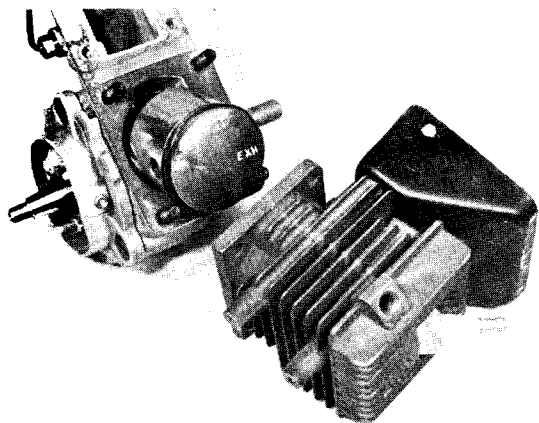

Fig. 34 — Removing Cylinder from Piston
12. Remove four retaining nuts and remove cylinder from piston, Fig. 34.